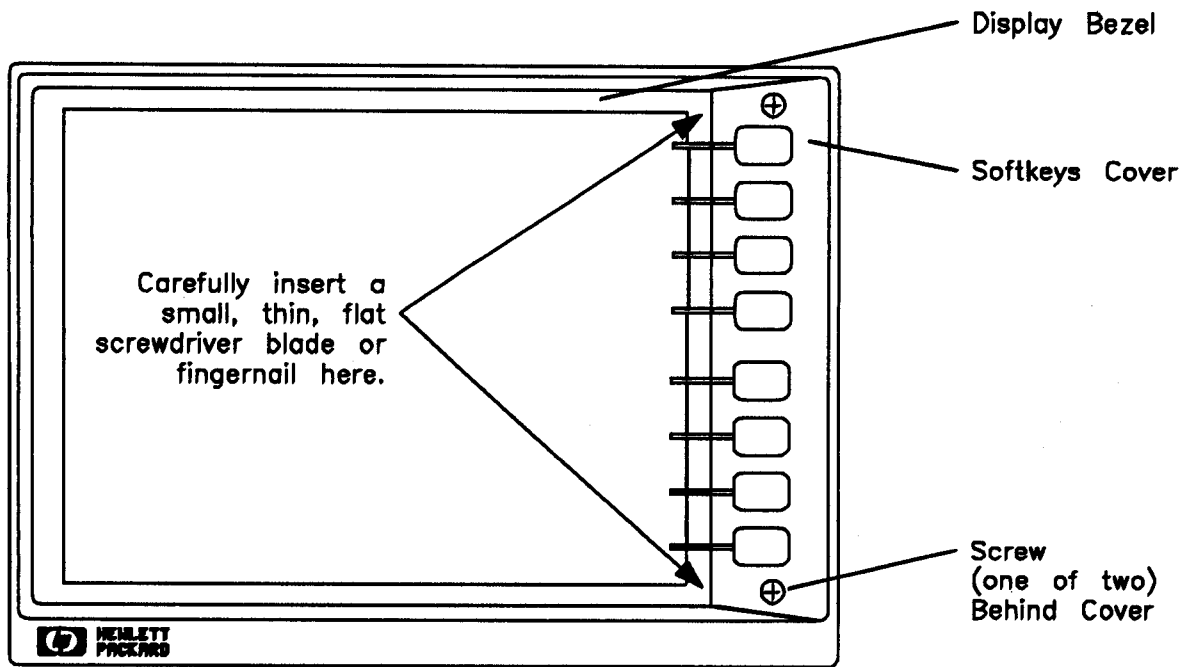

Figure 2-1. Removing the Glass Filter
2. Remove the softkeys cover (a plastic cover through which the front panel softkeys protrude): *carefully* insert a thin, flat screwdriver blade (or your fingernail) between the upper left corner of the softkeys cover and the glass filter (see Figure 2-1). Be extremely careful not to scratch or break the glass. Carefully pull the cover forward and off.